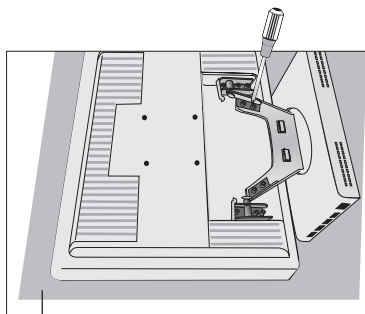

Figure R.2
3. Place monitor face down on a non-abrasive surface (**Figure R.2**).
4. Remove the 4 screws connecting the monitor to the stand and lift off the stand assembly (**Figure R.2**).